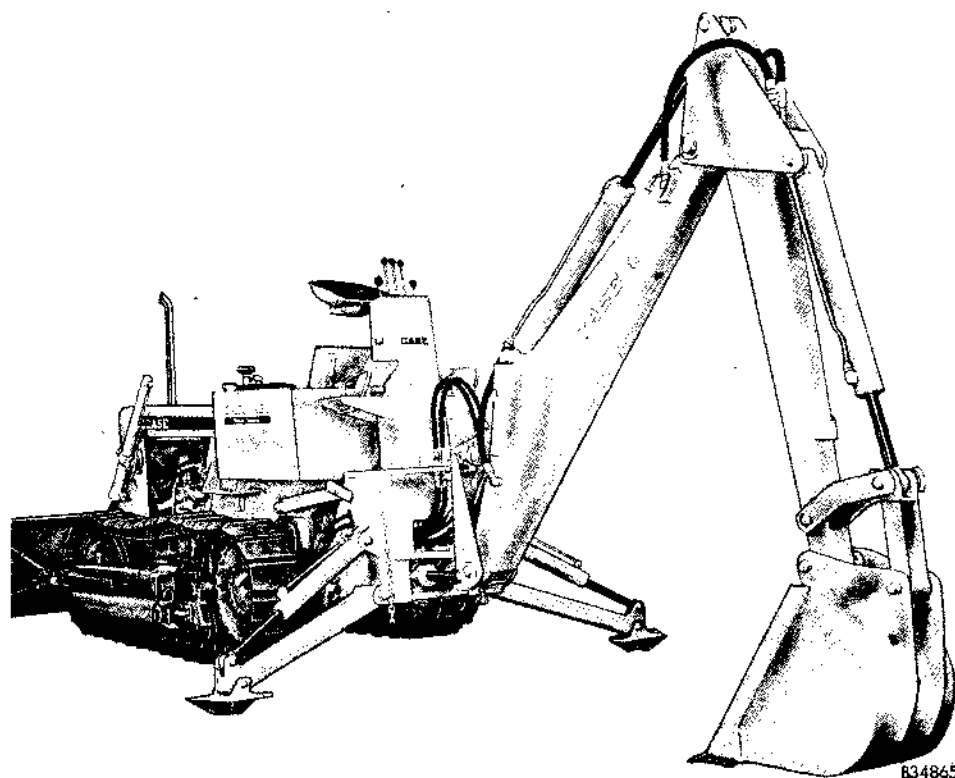

Figure 9
2. Form a tripod with the backhoe as shown in Figure 9. Lower the stabilizers until they just touch the ground.